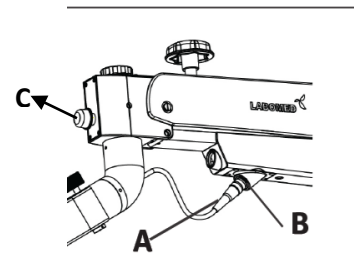

Fig. 41a
3. Connect 4 Pin connector A to B to power up the LED System of Microscope. Refer Fig. 41a.